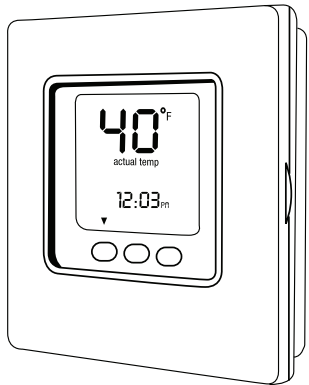

Fig. 7 - Lowest Temperature Setting
1. Set your room thermostat to the lowest temperature setting and set the “MODE” to “OFF”. See Fig. 7.